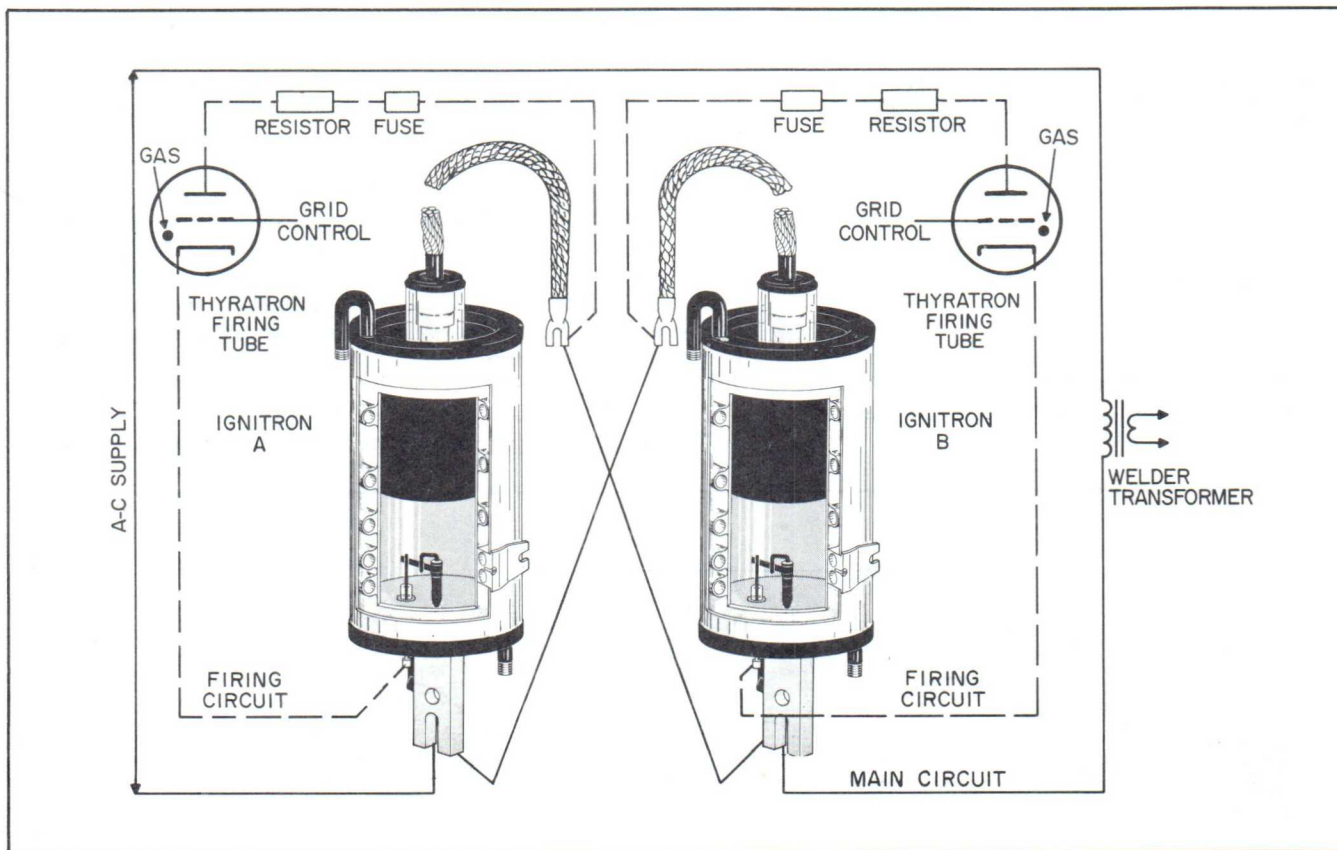
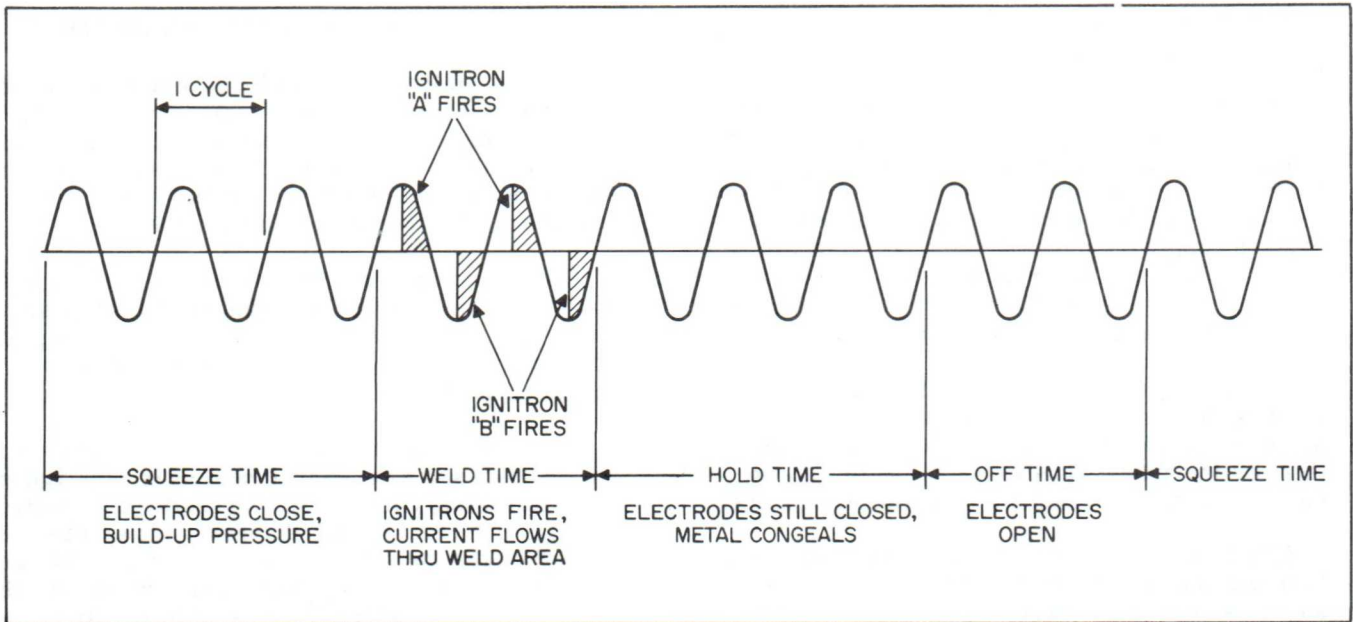

Figure 3. Functional Circuit of an Ignitron Welder
Figure 6. Ignitron Current Control
(1) Two circuits are used in an ignitron tube welding control, the main or cathode to anode circuit, and the firing or ignitor circuit. Figure 3 shows how these circuits are used to incorporate an ignitron tube into a welding equipment control circuit.
(2) In power rectification, a third circuit is used called the holding anode circuit. A small auxiliary anode is used to maintain a sufficiently high degree of ionization to maintain the mercury arc even at fractional loads.
(1) An ignitron tube with the aid of thyratrons and other electronic devices, can provide precision control over the current flowing through a circuit. This type of control is essential where ignitrons are used to feed current into the primary of a welding transformer. (See circuit in figure 3).
(2) In ordinary rectifier service, the ignitor starts current flow at the beginning of each positive half-cycle. The entire cycle of operation repeats continuously thus providing an output of pulsating direct current.
(3) For resistance welding, direct current is unimportant since resistance welding is usually done with alternating current. By connecting two ignitron tubes in inverse parallel (the anode of one tube connected to the cathode of the other, figure 3) each tube will conduct on opposite half-cycles and the output of both tubes together is still alternating current.
(4) Ignitron tubes make it possible to obtain precise control over the average amount of current flowing through a circuit. This is done by controlling the exact point at which the ignitor is fired. The switching accuracy of ignitrons is extremely good and this feature together with no relay contact wear make ignitrons extremely valuable in industrial control equipment.
(5) In most welder circuits, the ignitron tubes are required to conduct in a more complex sequence. The conduction time of the ignitron tubes are illustrated in figure 6. There are actually four phases of operation involved, "squeeze" time, "weld" time, "hold" time, and "off" time. The ignitrons fire only during the "weld" time, each ignitron sharing the load as shown in figure 6. The larger the shaded areas, the larger the average current output will be.
(6) In the same welder circuit, another job might require less heat, therefore less current. If the job requires less current, the ignitrons are controlled to pass current during a smaller fraction of each half-cycle.
(7) The timing diagram (figure 6) shows two complete cycles allocated to "weld" time. This "weld" time, as well as the "squeeze", "hold", and "off" times are usually adjustable in most spot welders.
(8) Therefore, it is obvious that two items control the average current output of the ignitron, first of all, the number of cycles allocated to the "weld" time, and the proportion of each "weld" cycle allocated for firing.